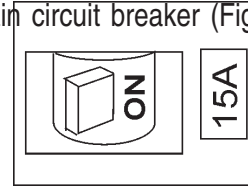

Figure 21. Main Circuit Breaker (ON)
3. Place the main circuit breaker (Figure 21) in the **ON** position.